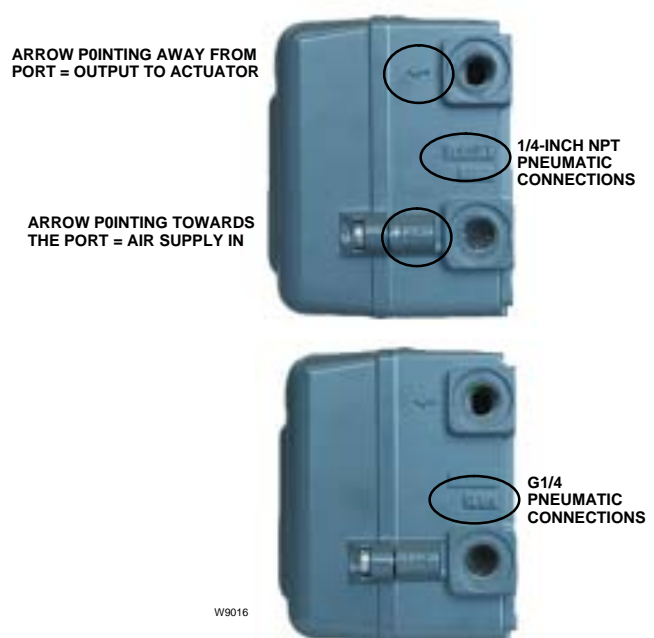

Figure 2-7. Conduit and Pneumatic Thread Variations
9. Install tubing between the actuator casing and the pneumatic positioner output connection that has the arrow pointing away from the opening. See figure 2-7.
5. Install tubing between the actuator casing and the pneumatic positioner output connection that has the arrow pointing away from the opening. See figure 2-7.
Connect the nearest suitable supply source to the connection with the arrow pointing towards the opening (see figure 2-7).